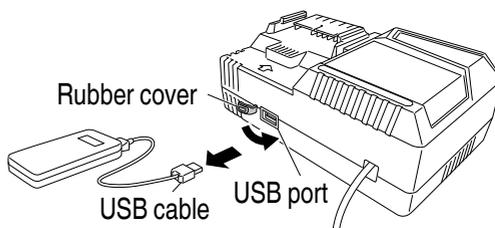

Fig. 40
- (3) When charging is completed
- Unplug the power cord from the electrical outlet. (**Fig. 40**)